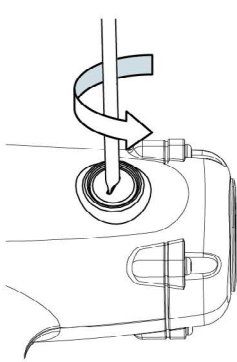

Fig. 5
1. Loosen the carbon brush panel counter-clockwise by using flat head bit. (Fig. 5).